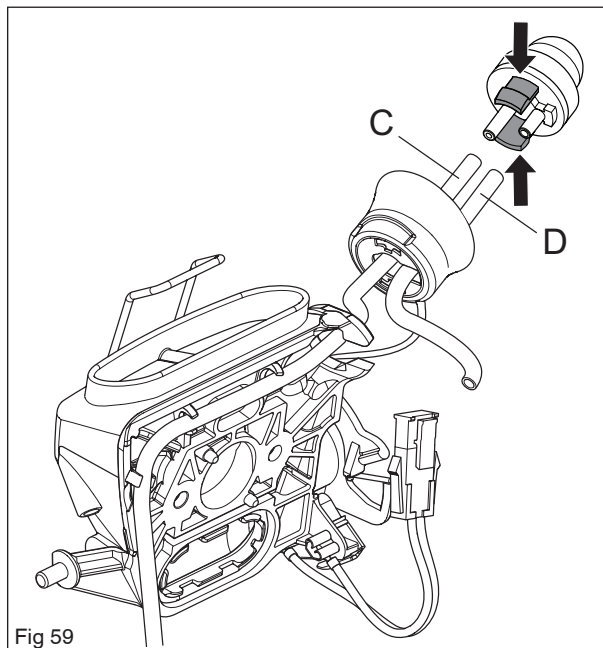

Fig 59
2. Loosen suction hose C and return hose D from the fuel pump. See figure 59.
1. Snap the fuel pump in place in the filter holder. See figure 59.